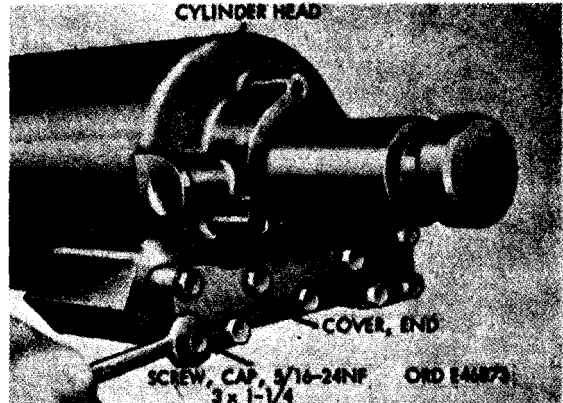

Figure 104. Removing end cover
- (3) **Remove nine cap screws and copper washers from end cover** (fig. 104), and remove end cover and gasket. Discard gasket.
- (4) **Remove bypass plunger spring retaining plug from cylinder head** (fig. 104). Then remove bypass plunger spring and ball from cylinder head.
- (d) Position end cover and new gasket on cylinder head and install nine cap screws (fig. 104) and copper washers, securing end cover to cylinder head.